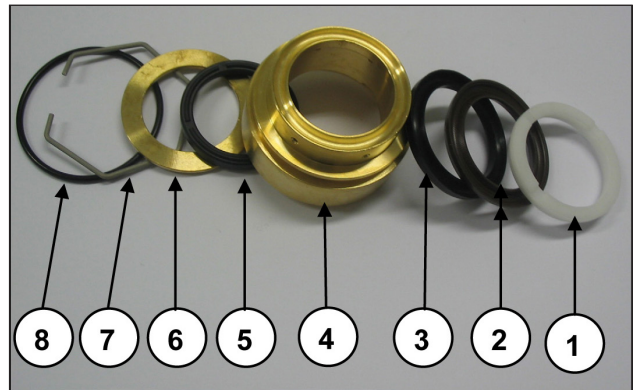

Fig. 44
**Pay attention to the order of seal pack disassembly as indicated in Fig. 44 composed of:**
- Lubricate ②③⑤ components (Fig. 44) with OCILIS silicone grease code 12001600. This operation is also deemed necessary to facilitate adjustment of the lip seal on the piston.